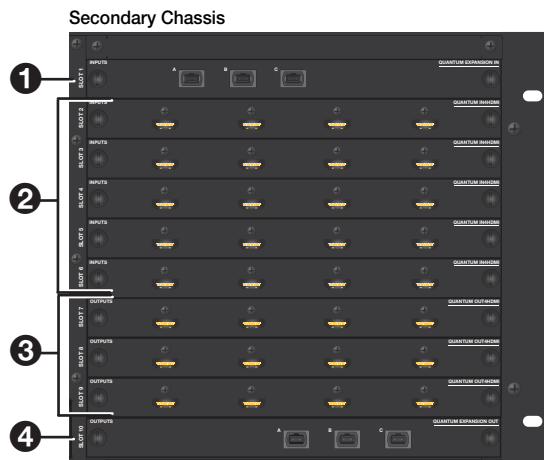

Figure 3. Primary and Secondary Chassis Card Installation Examples
- The **Expansion IN card** is installed in the first slot (slot 1) to accept the connection from the Expansion OUT card in the previous chassis (see figure 3, ❶).